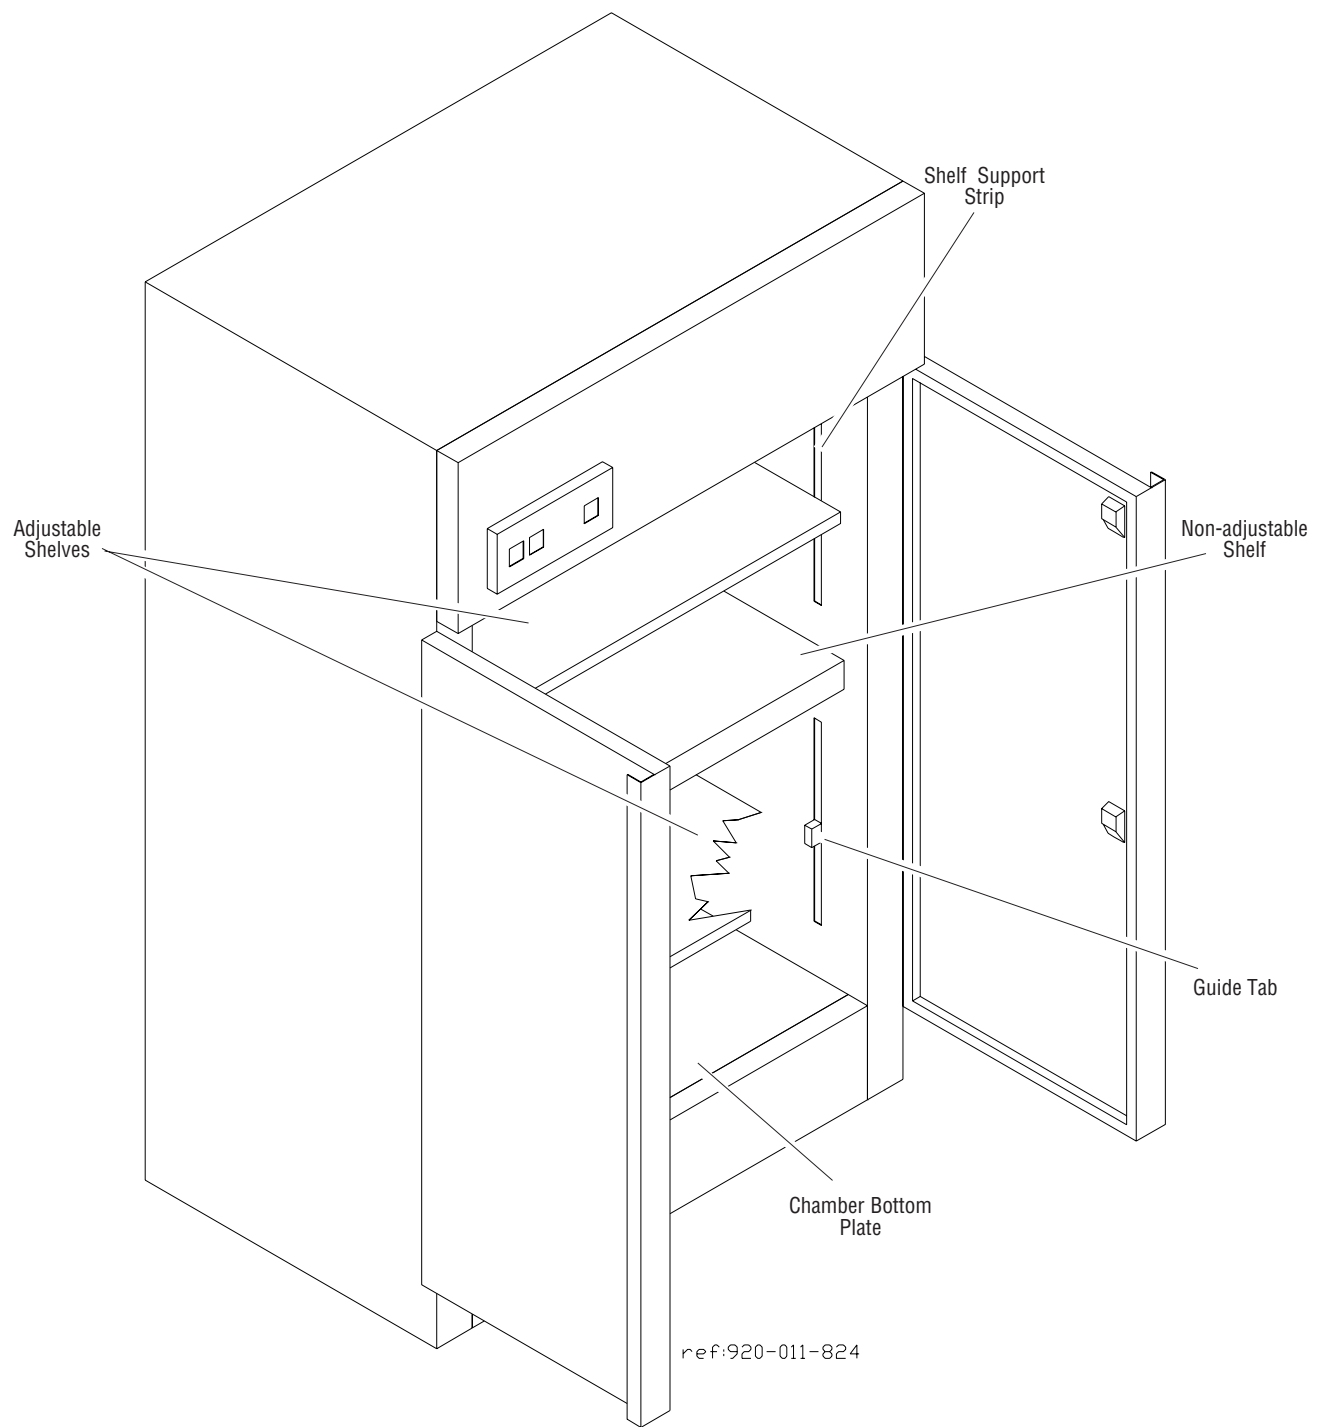

Figure 2-4. Drying Chamber
7. Insert guide tabs into shelf support strips in chamber (see Figure 2-4).